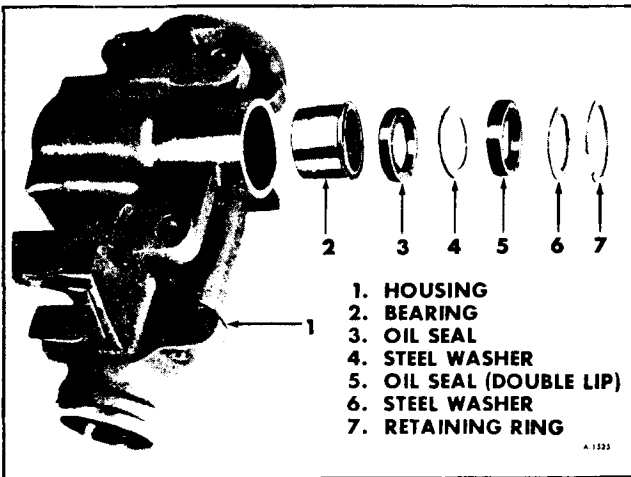

Figure 43-Pitman Shaft Bearing and Seals
1. Thoroughly clean the parts (figure 43) and lubricate them with Power Steering Fluid.